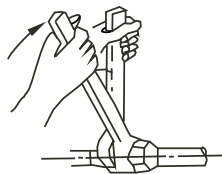

Fig.4-4
- Be sure to use both a spanner and torque wrench together when connecting or disconnecting pipes to /from the unit. (Fig.4-4)